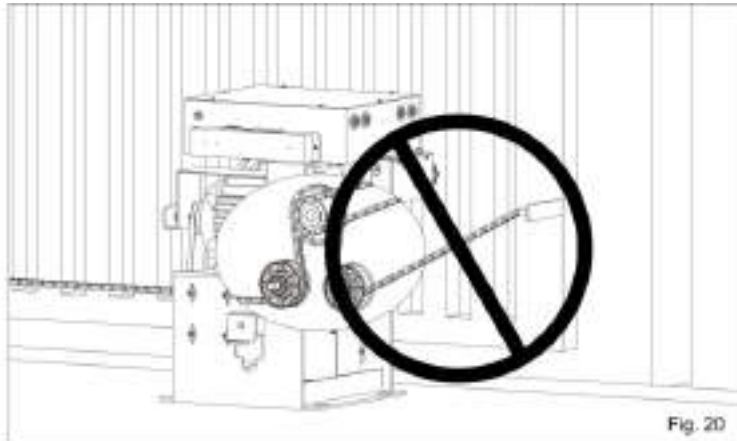
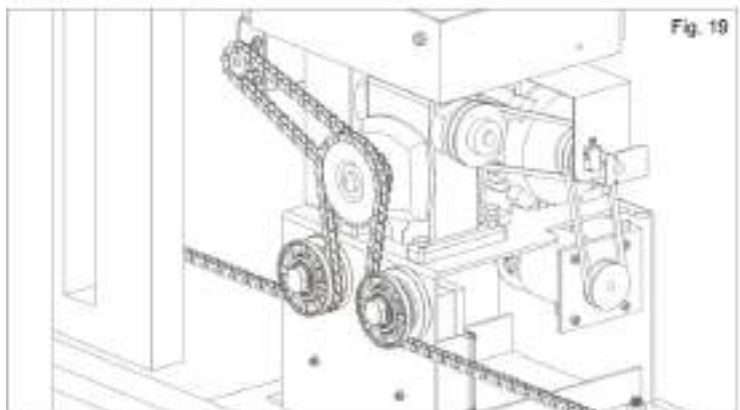

Fig. 20
Fig. 19
**5.2.** Install the chain making it pass through the pinion group as in fig. 19. The chain must be always in line both vertically and horizontally, if not perfectly aligned (fig. 20 and 21) it may derail from the pinion group or the motor reducer risks a greater effort not allowing the right operating of the system.